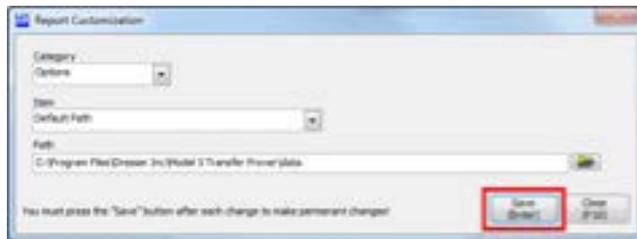

Figure 111: Save Selection
5. The new selection will be displayed. Select "Save" to finalize the change. See **Figure 111**.